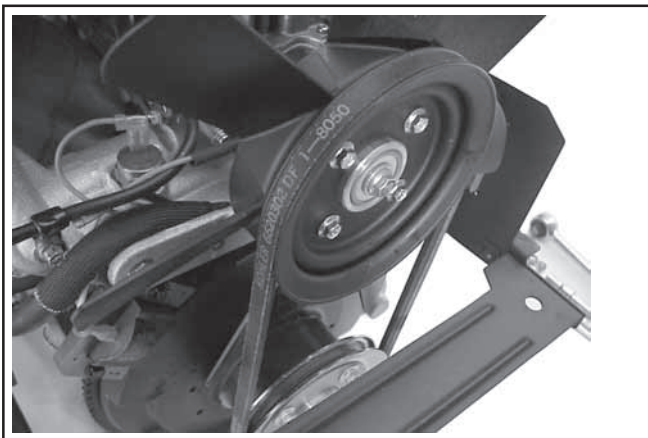

Figure 20. Pulley and Drive Belt.
3. The v-groove of each pulley (upper and lower) should not be bent, nicked, or damaged. Pulley mounting areas and lower pulley shims should be free of any cracks or elongation. See Figure 20.
Clean the cooling fins of the screen and radiator with a soft brush or blow out, using clean, compressed air. See Figure 20. **Do not** use a high pressure washer, to avoid damaging the cooling fins.